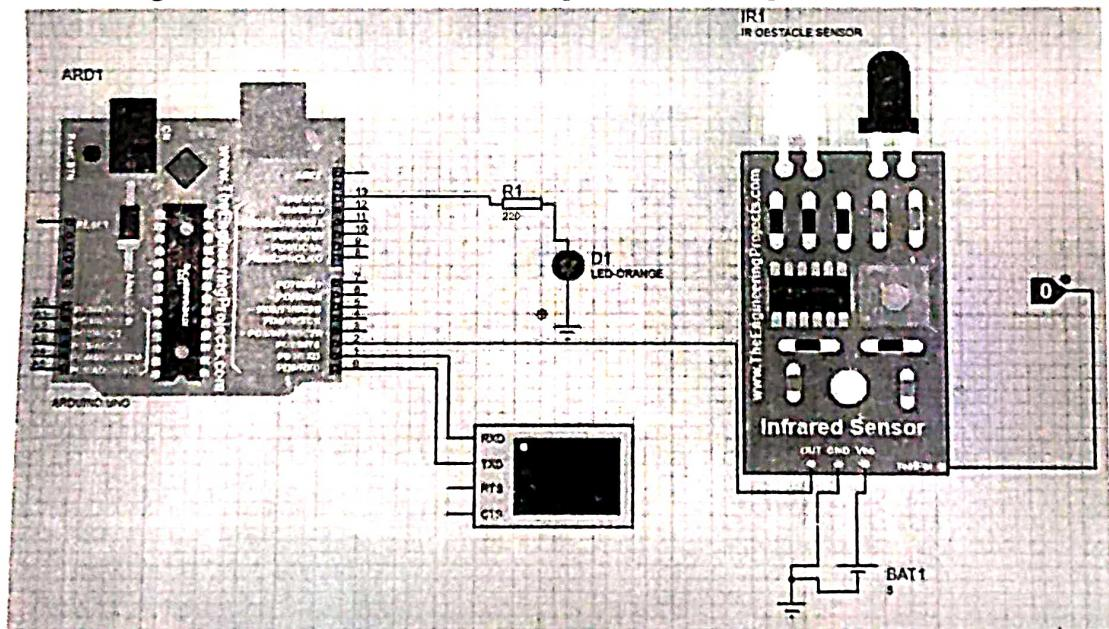

Figure 2: Connection Diagram of the Practical
9. Once the circuit diagram is completed as indicated in **Figure 2**, press the play button available at bottom left corner of simulation window as shown below (highlighted in red).